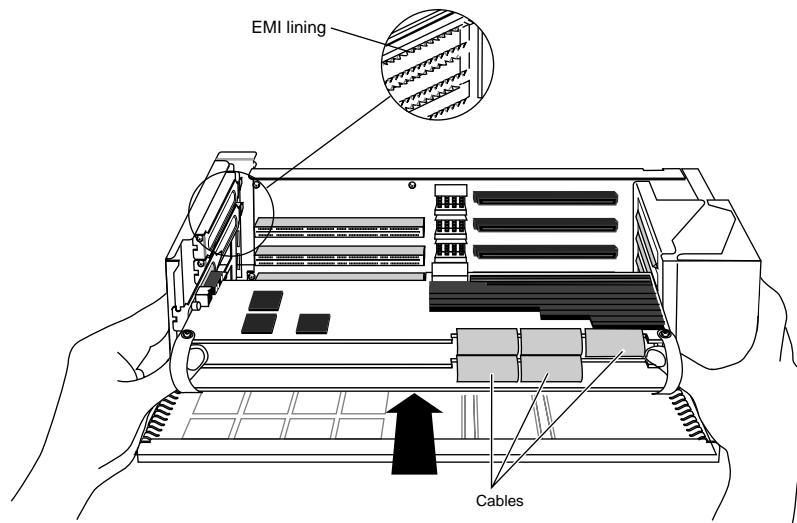

Figure 5-48 Replacing the Maximum IMPACT Graphics Board Set
- Place your right thumbs behind the pull straps, and push against the right standoff. Place your left thumb behind the pull strap and press against the middle board as shown in Figure 5-48.